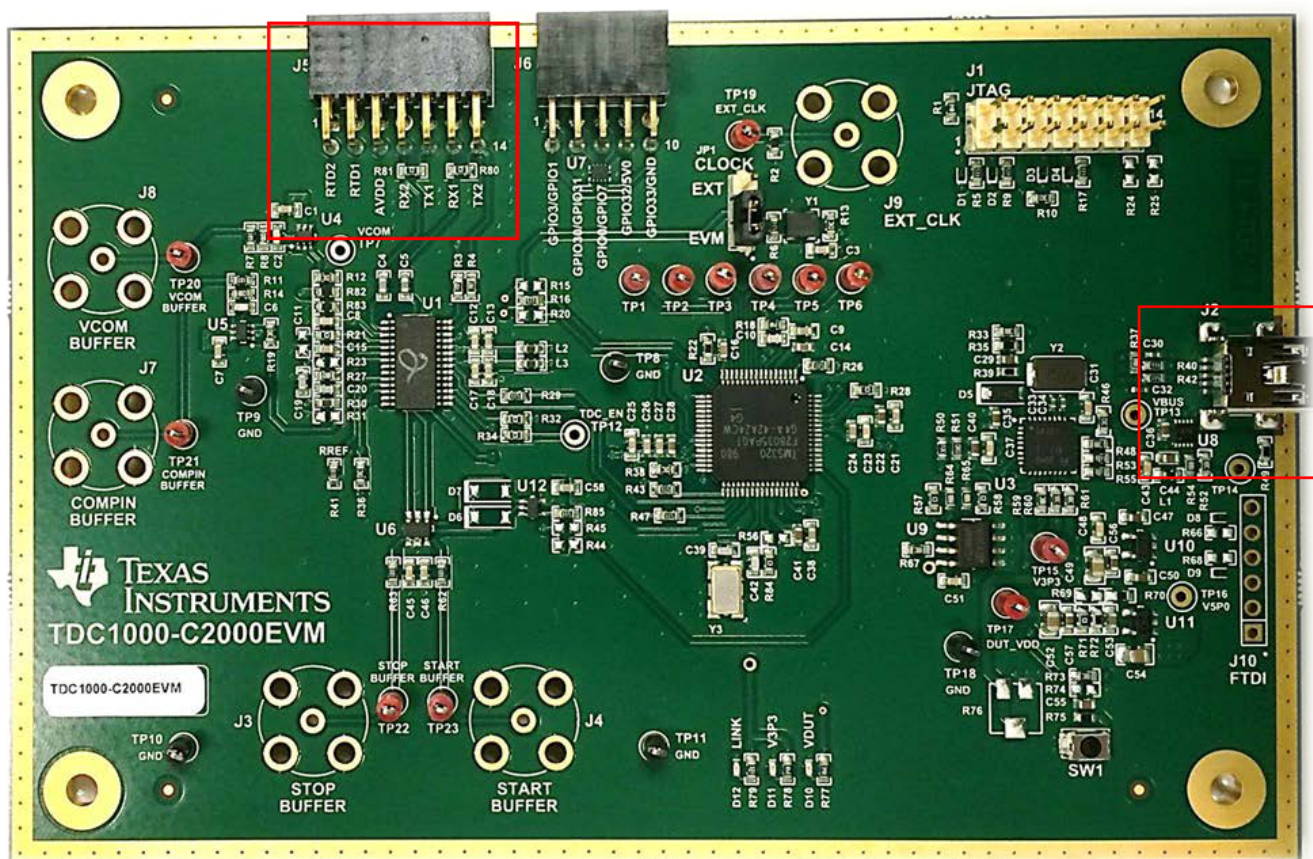

Figure 5. EVM J5 and J2 Connectors
2. Attach one of the transducer wires to the terminals TX1 (J5.P10) and the other side to any of the ground in (J5) connector (see Figure 5).